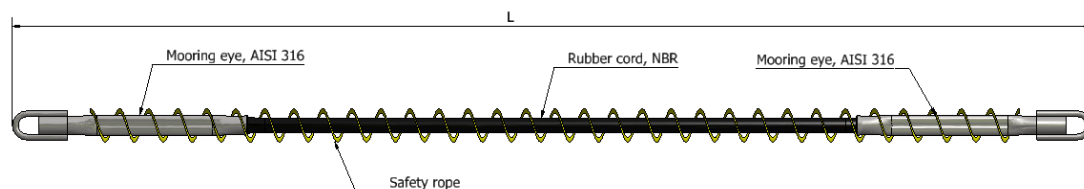

Figure 7 Close-up of mooring system
A wave buoy has to adapt to the wave height in order to obtain accurate measuring data, and therefore, the mooring system has to be flexible. This is accomplished by implementing a rubber cord in the mooring system. The standard rubber cord with safety rope is shown below in Figure 7, with (L) denoting length.